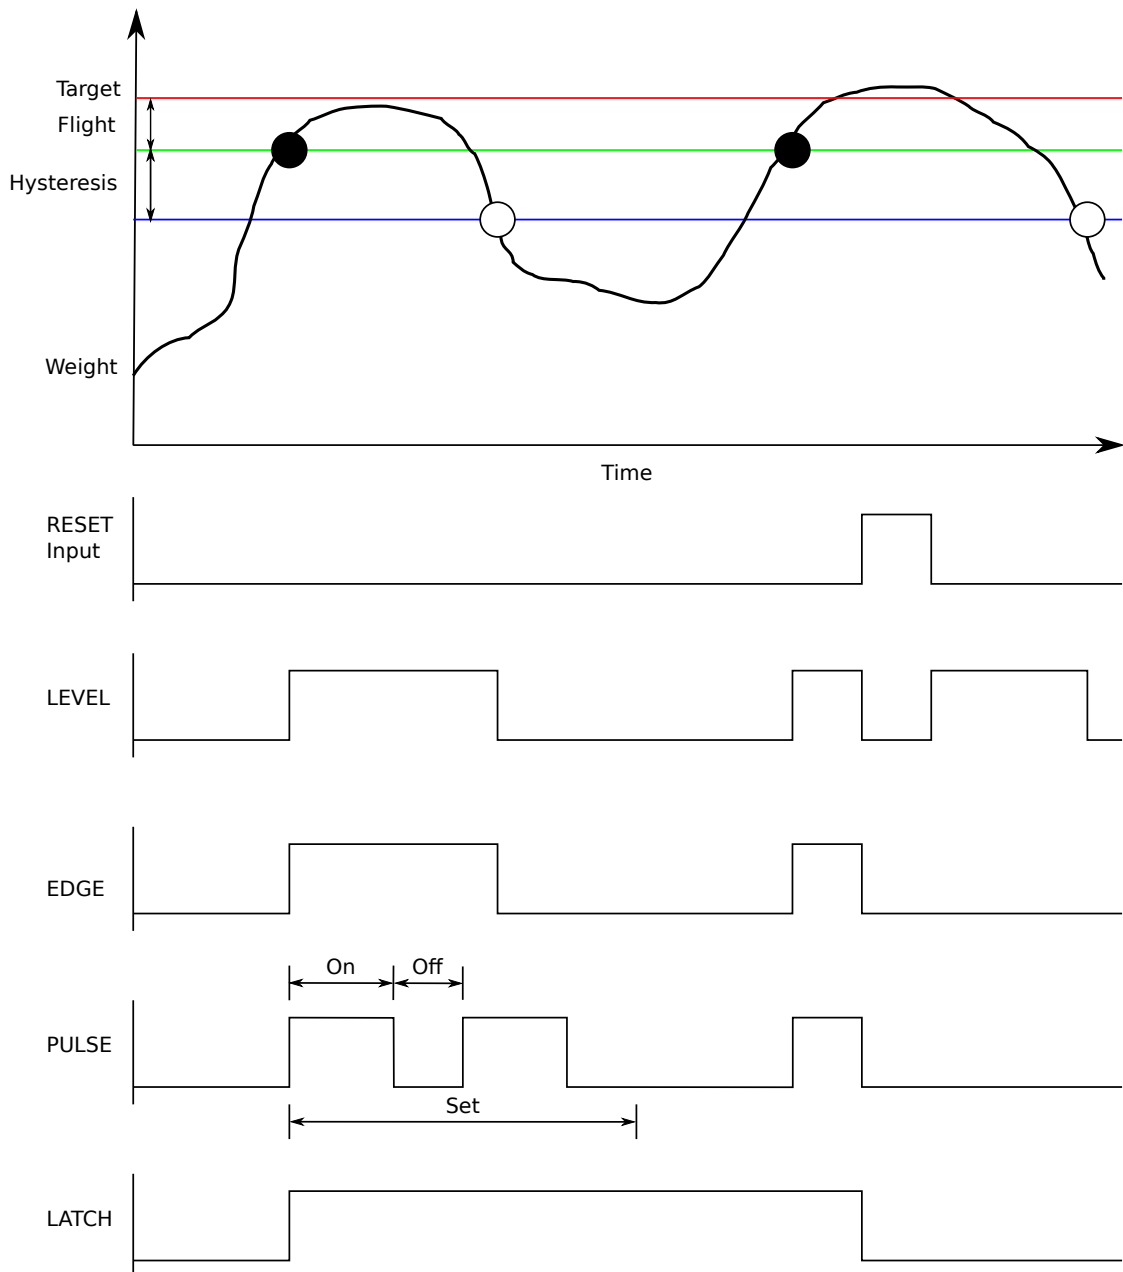

Figure 1: Comparison of output timing on Over setpoint
- **TIMING:** Select the output timing of the setpoint. The following examples are explained in the context of an OVER setpoint however the timing options are available for all setpoint types. See figure 1 on page 68 for further clarification. Options are: